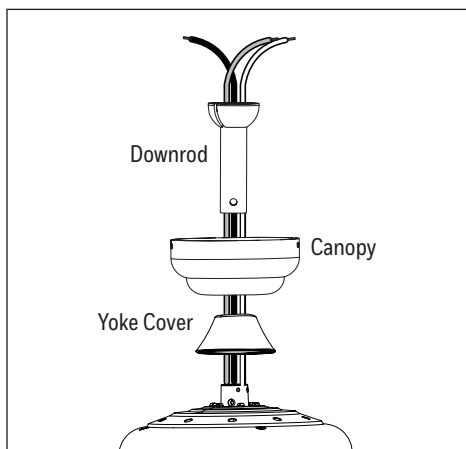

Figure 3.1
1. Feed the fan wires through the yoke cover, canopy and downrod (Figure 3.1).